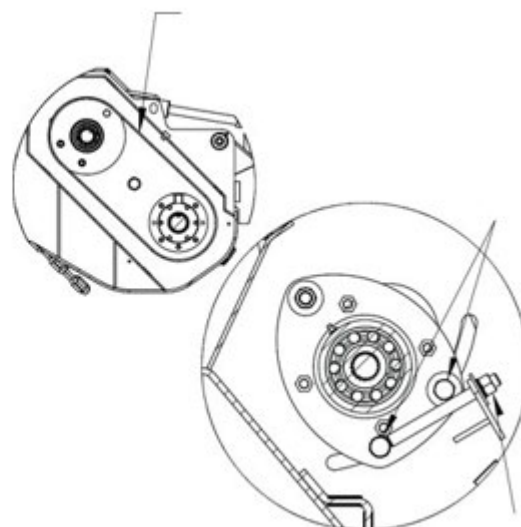

Fig. 6.1
(SEE FIGURE 6.1)
1. The ideal tension is the lowest tension at which the belt does not slip under peak load conditions. See Figure 6.1 for belt deflection in the middle of the span between the pulleys.